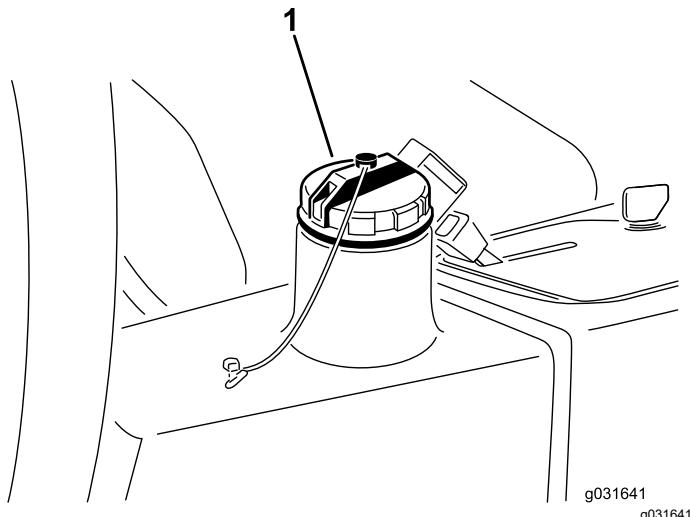

Figure 67
4. Fill the reservoir (Figure 67) with approximately 13.2 L (3.5 US gallons) of hydraulic fluid; refer to Checking the Hydraulic System \(page 50\).